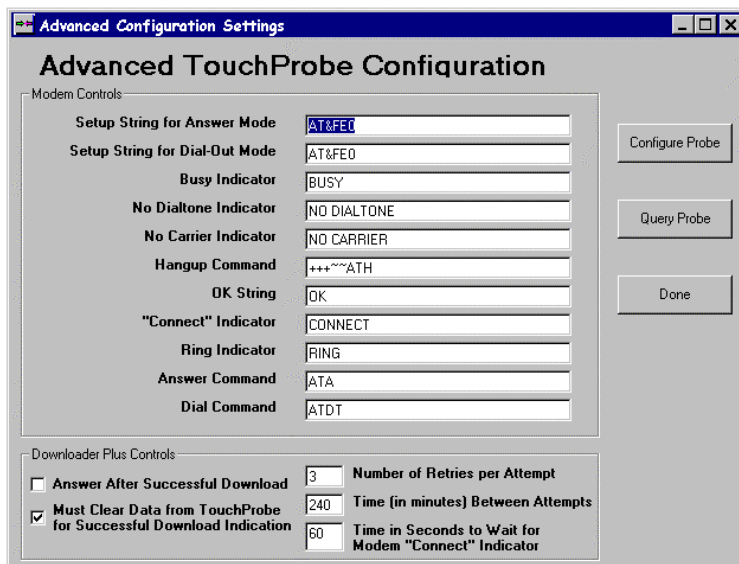

Figure G-9 Advanced TouchProbe Configuration Screen
3. Click **Advanced Settings**; the **Advanced TouchProbe Configuration** screen (Figure G-9) appears. This screen allows you to enter customized settings for the modem and also to enter settings to be sent to the TouchProbe Downloader Plus by the TouchProbe.